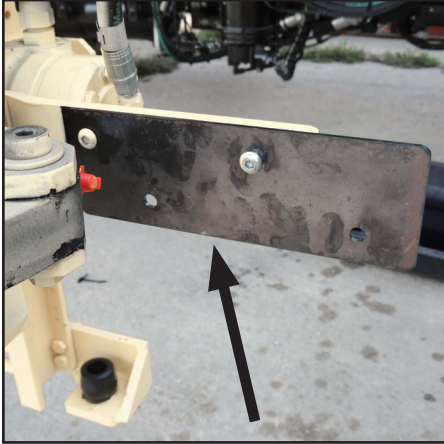

Figure 10
17. Install the new hose abrasion control bracket (P/N 1509942) on the mount (to the new hydraulic tube clamp bracket) using the existing screws (with a drop of blue Loctite® added to each screw) (Figure 10). Use a torque wrench to torque to 9 ft-lbs.